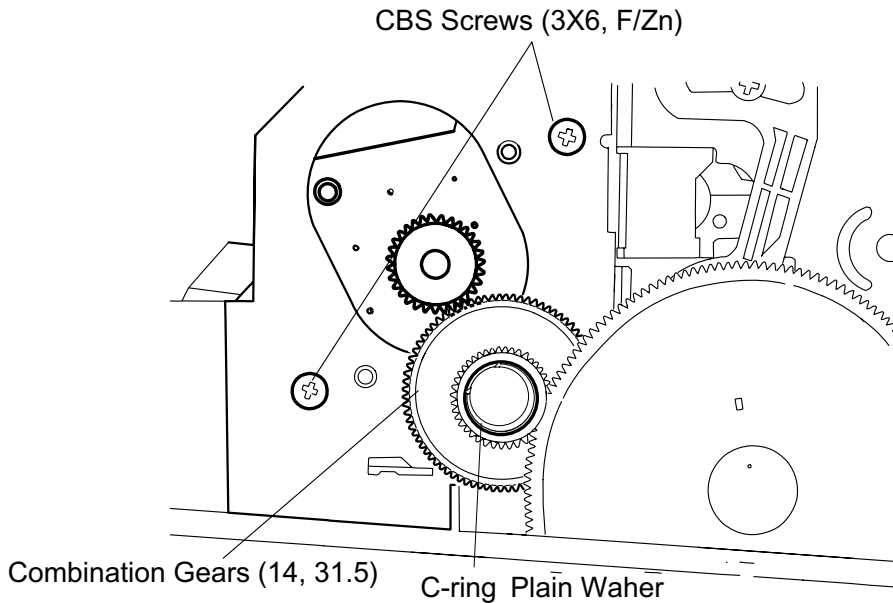

Figure 3-35. PF Motor Assembly Removal (1)
3. Remove 2 screws (CBS, 3x6, F/Zn) securing the PF motor assembly to the left frame. (Refer to Figure 3-35.)